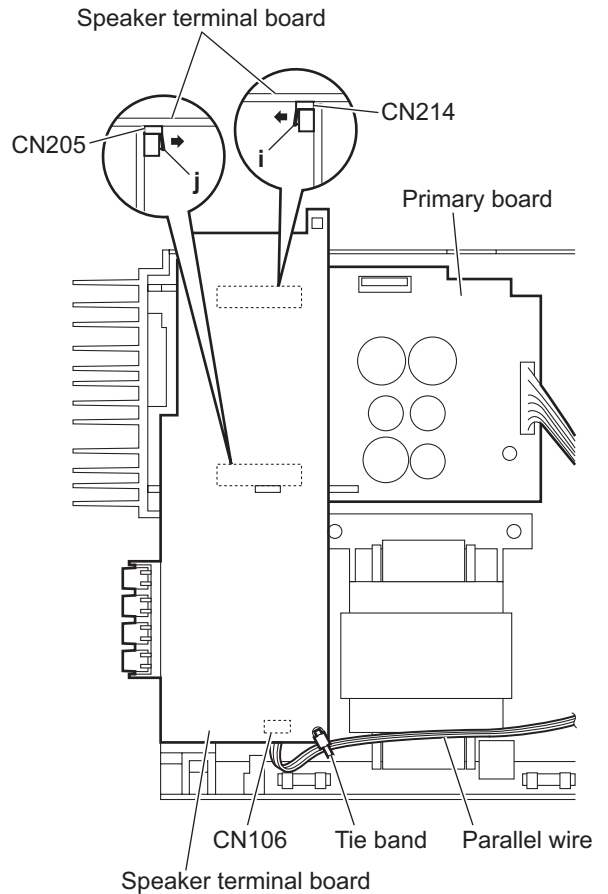

Fig.18
3.1.10 Removing the speaker terminal board (See Fig.18.)